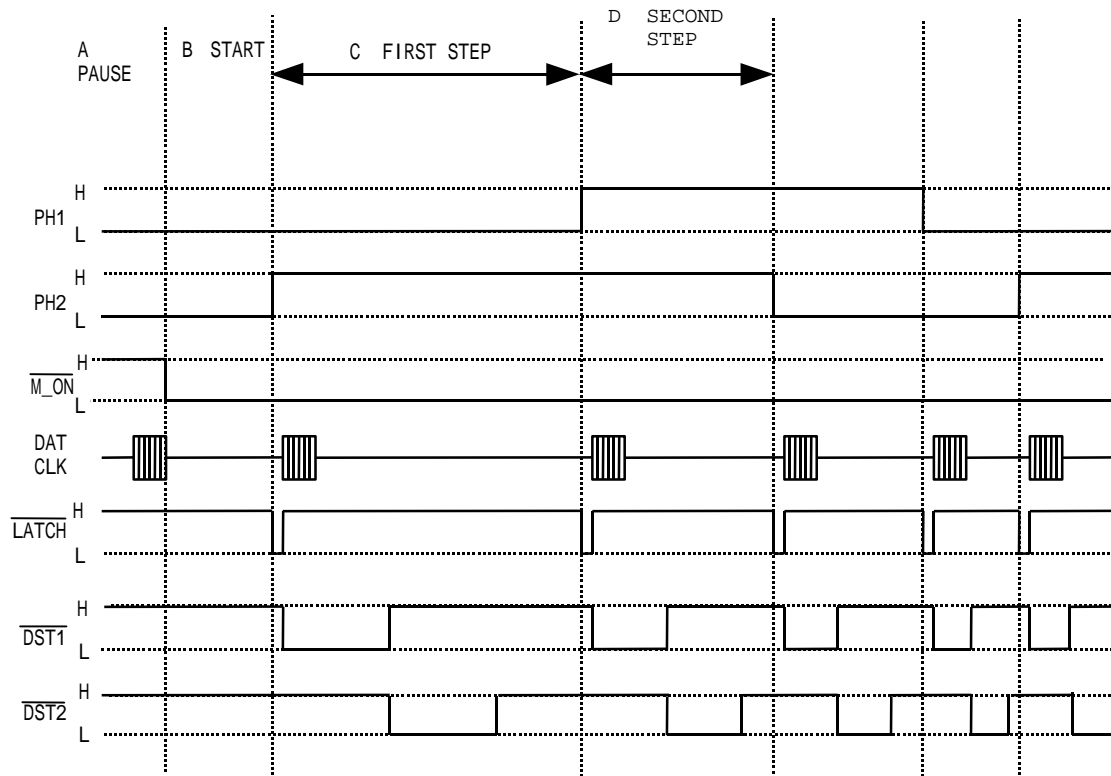

Figure 5-1 Timing Chart for Driving Using Two Divisions
The print data in the First step can be transferred while outputting the Start step (B). However, the print data is transferred before outputting the Start step in **Figure 5-1**.
Drive the motor and the thermal head at the same time for printing. **Figure 5-1** is a timing chart for driving using two divisions. **Figure 5-1** is an example of acceleration control of the motor, data transfer to the head and two-divisions of the head.